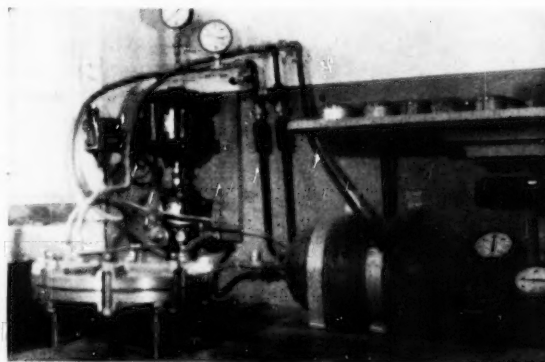
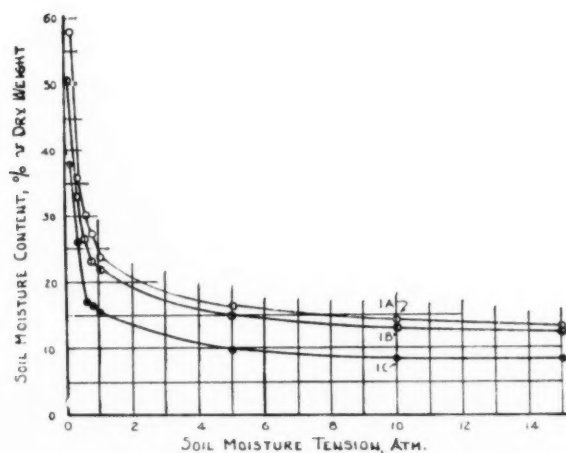

Fig. 1 Equipment used for supplying pressure to the pressure-membrane apparatus
Fig. 2 Soil moisture characteristic curves: 1A, silty loam soil; 1B, loamy soil; 1C, sandy loam soil.
The diagnosis of poor water penetration due to soil compaction is difficult since low infiltration rates are also caused by excessive quantities of adsorbed sodium and by high clay content of soils. To facilitate the securing of undisturbed soil samples, the senior author developed a special core sampler which can be used for soil density studies (Fig. 2). The sampler utilizes a paraffined cylindrical drug carton for the inner liner and sample container. It has an advantage over the metal container described by Van Doren and Kingebiel (2) and others, as single samples can be taken to a depth of
Fig. 1 (Left) Corn roots growing in the cultivated surface soil above the compacted layer of Yolo clay loam • Fig. 2 (Right) Sampler for taking undisturbed soil samples. Left to right: paraffined drug carton 3½ x 7½ in, cutting cylinder, driving head, and soil tube hammer. The paraffined carton slips inside the cutting cylinder which has a cutting head the same diameter as the inside of the cylinder. The driving head is machined to fit inside the cutting cylinder to hold the carton in place and form a rigid joint. The joint on the soil hammer fits into the pipe forming the top of the driving head
The equipment used for supplying the pressure (Fig. 1) was a Cornelius air compressor capable of developing 1,500 psi, and run by a 1/3-hp motor, a non-shatterable pressure tank, a pressure-regulator switch, mercury manometer, valves and gages. Pressure of 300 psi was maintained in the tank.
To obtain the per cent of soil moisture versus tension curve (soil moisture characteristic curve) a sample of soil is subjected to a pressure difference across a porous wall or membrane. This pressure difference is usually called soil-moisture tension and is commonly expressed in standard atmospheres. Tension expressed in atmospheres is plotted against the per cent of moisture retained in the soil at that tension (Fig. 2).
experimental period are caused by slow drying of the soil at that time. Core samples were taken with the sampler shown in Fig. 2 in four plots corresponding to the first four dates at which the tractor was passed over the soil. Volume weights of these cores and examination of the soil in the field indicated that the compression of soil by the tractor tires was apparently limited to a depth of about 7 in under the severest treatments (6 and 12 passes at 2 and 4 days after irrigation), and that the depth affected was somewhat less with the drier soil. However, neither method of determining the depth affected is sufficiently sensitive to indicate changes which would be relatively large as measured by water infiltration.
The curves (Fig. 2) obtained for this problem were similar to those obtained by other investigators.